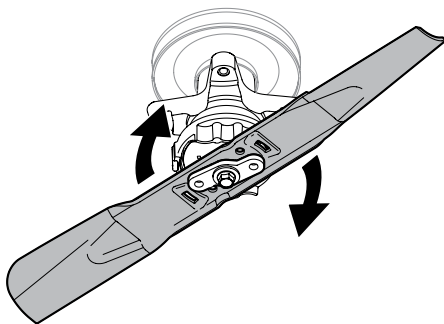

Figure 4-11
5. Rotate the blade clockwise to align with the blade adapter. See Figure 4-11.